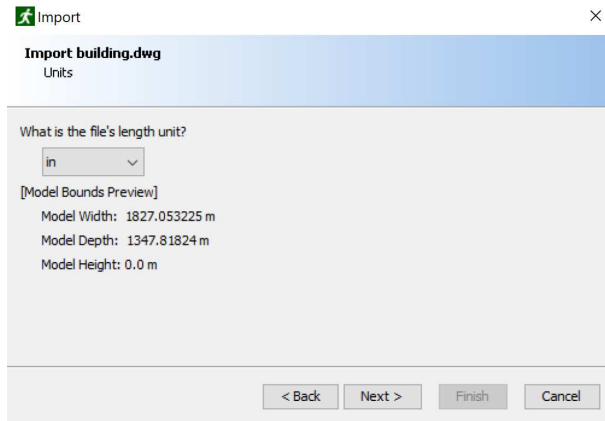

Figure 68. CAD import dialog (units)
2. After selecting a file, a step-by-step dialog will open as shown in Figure 68.